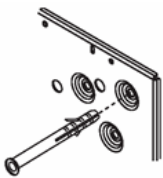

Fig. 26
6. Drill the single hole (10mm diameter for wall plugs provided) as previously marked and position the back plate on the wall position A on template. Push one of the wall plugs supplied through the plate and secure it to the wall with one of the 80mm screws (Fig. 26). If it is not possible to use Position A use one of the other six positions marked B+C.